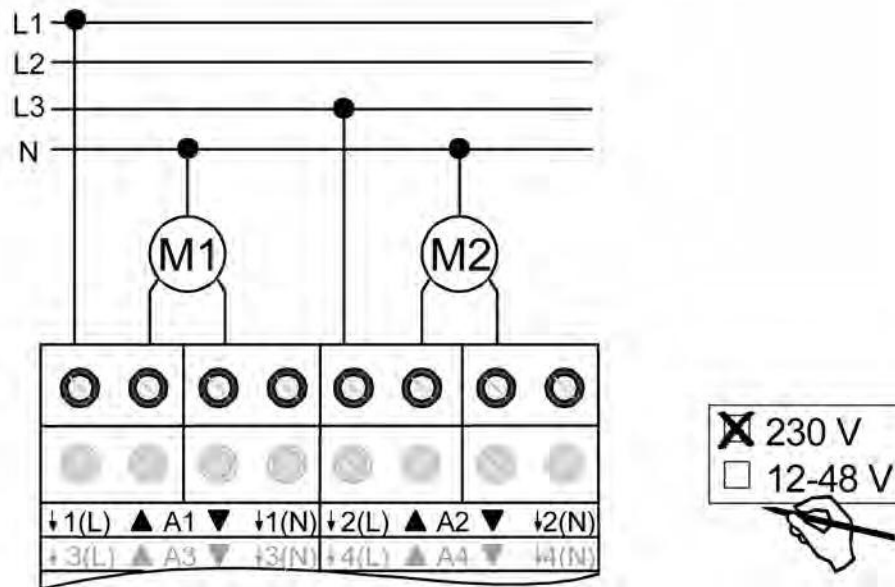

Figure 5: Electrical connection for 230 V drives
- Connect the drives as shown in the wiring example (figure 5).
- In the type of supply described (figure 5), it is not absolutely necessary to connect the N conductor to the shutter actuator. If, however, drives with high-resistance travel direction inputs (e.g. drives with electronic limit switches) are connected, then it is necessary to also connect the N conductor to the corresponding terminal of the shutter actuator. The data of the drive manufacturer should be observed.